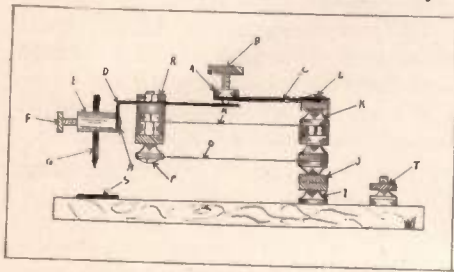

FIG. 1
The heavy brass strip is cut into two pieces, one $1\frac{1}{2}$ inches long and the other $2\frac{1}{2}$ inches long. In the short piece (C, Fig. 1), two $5/32$ -inch holes are drilled or punched, one at each end. Over one of these holes is soldered a six-sided nut (A), through which goes a hard-rubber headed thumb screw (B), which may be
-FIG. 1-